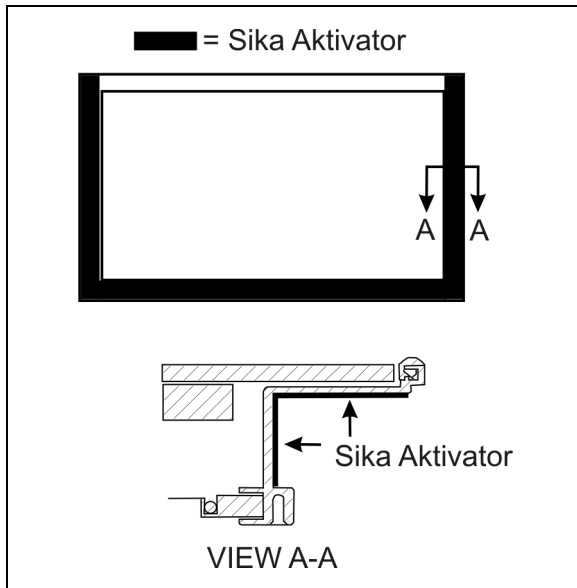

FIGURE 71 : SLIDING WINDOW - SIKa AKTIVATOR
2. Apply Sika Aktivator on sliding window as per FIGURE 71.